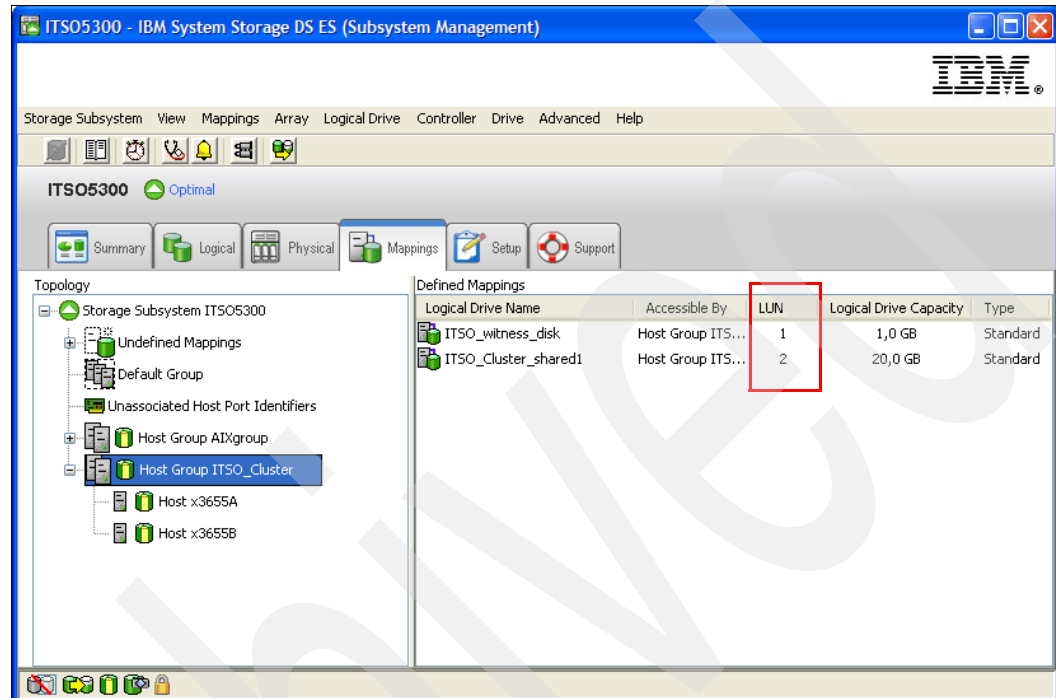

Figure 5-83 Storage Manager - final mapping
4. Map the data LUN to the host group *ITSO_Cluster* with the next subsequent LUN number (2). This LUN represents a shared disk that will be available to the cluster and will be managed by the cluster service.
5. Figure 5-83 show how the mapping finally looks. The host group itself just sees LUN 1 and LUN 2.